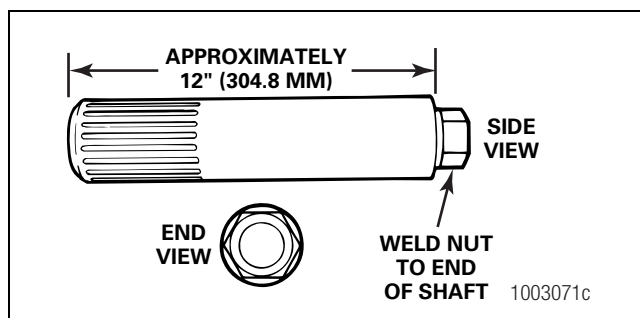

Figure 5.27
1. Make an inspection tool using an axle shaft that matches the spline size of the differential side gear. Cut the shaft to approximately 12-inches (304.8 mm). Weld a nut onto the end of the shaft. Figure 5.27.